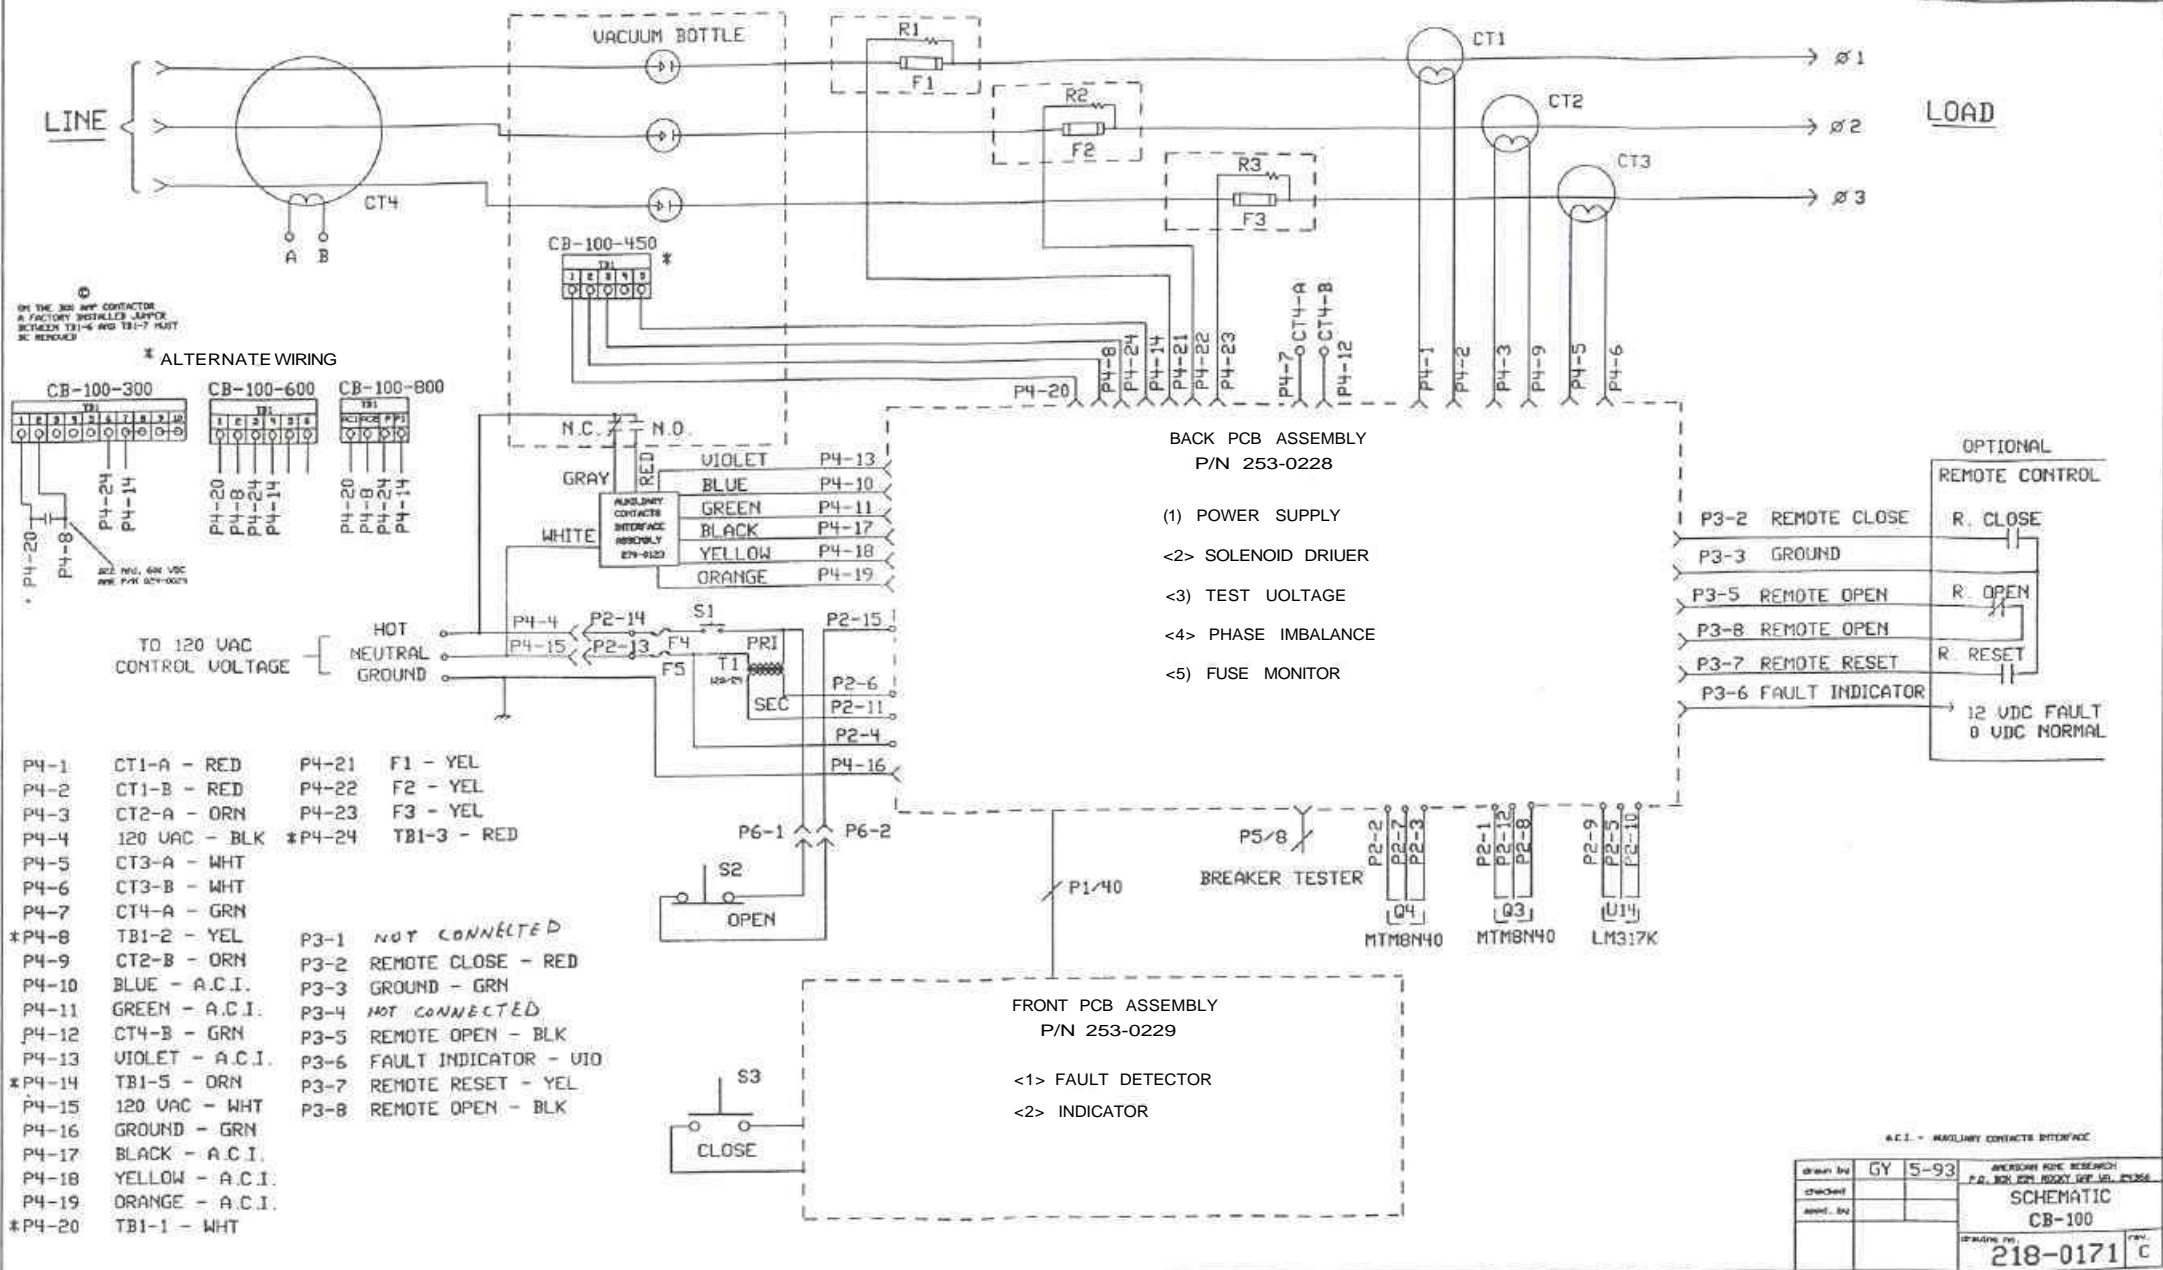

Figure 2, Phase Imbalance Setting
- Monitors the three phase current imbalance. The setting of phase current imbalance can be adjusted by R84 and R123 on this board (see Figure 2).